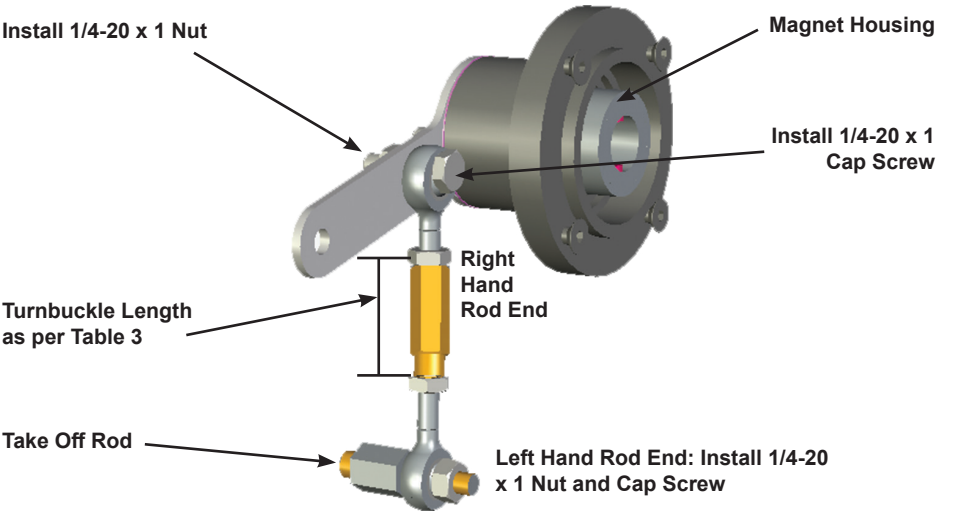

Figure 14 - SVi1000 Take Off Rod Mounting
4. Thread the take-off rod to the actuator stem connector (Figure 14).
5. Attach the right hand threaded rod end to the lever using a 1/4 - 20 x 1" cap screw and nut (Figure 14).
10. Thread the turnbuckle onto the left hand threaded rod end (Figure 14).
11. Adjust the turnbuckle until the hole in the lever is aligned with the alignment hole in the bracket. Tighten both turnbuckle lock nuts (Figure 14).